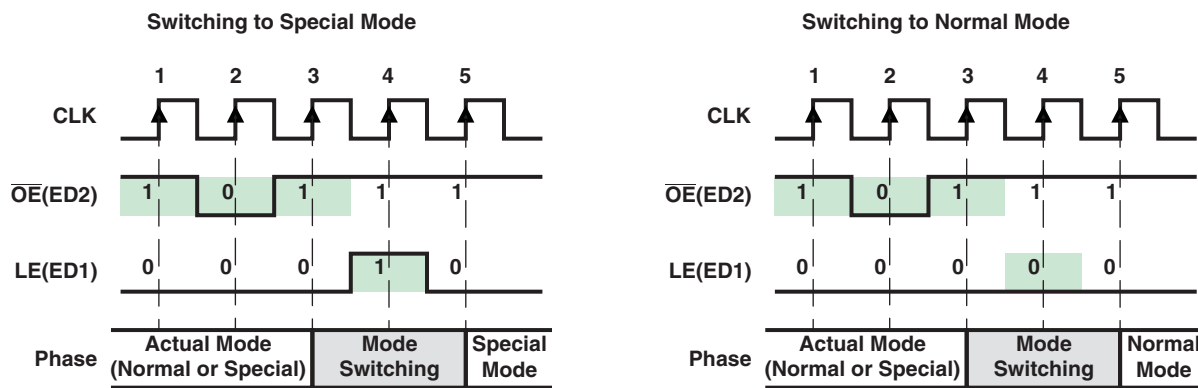

Figure 12. Mode Switching
In order to switch between its two modes, TLC592x monitors the signal  $\overline{OE}(ED2)$ . When a one-clock-wide pulse of  $\overline{OE}(ED2)$  appears, TLC592x enters the two-clock-period transition phase, the Mode Switching phase. After power on, the default operation mode is the Normal Mode (see Figure 12).
As shown in Figure 12, once a one-clock-wide short pulse (101) of  $\overline{OE}(ED2)$  appears, TLC592x enters the Mode Switching phase. At the fourth rising edge of CLK, if LE(ED1) is sampled as voltage high, TLC592x switches to Special mode; otherwise, it switches to Normal mode. The signal LE(ED1) between the third and the fifth rising edges of CLK cannot latch any data. Its level is used only to determine into which mode to switch. However, the short pulse of  $\overline{OE}(ED2)$  can still enable the output ports. During mode switching, the serial data can still be transferred through SDI and shifted out from SDO.